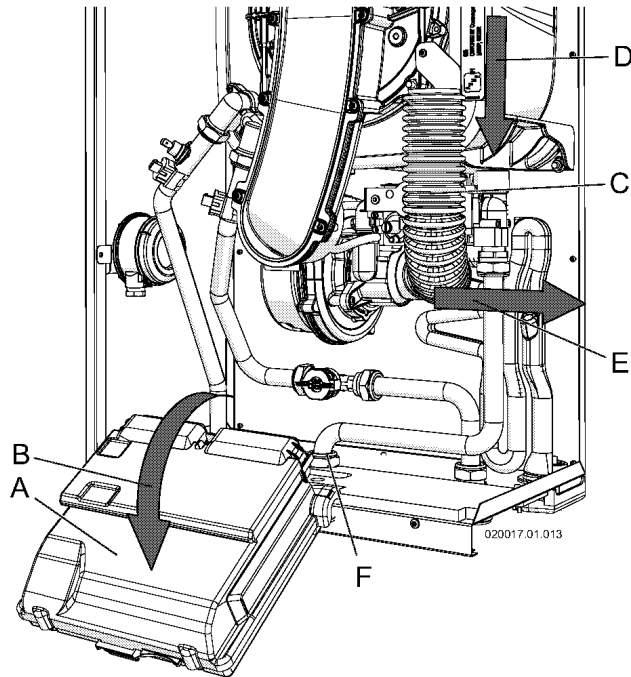

Figure 11-3 Remove the air inlet drum
- 4 - open the electrical box "A" in the "B" direction (see Figure 11-3)
- 5 - Push down, then rotate in the front direction and then pull in the right direction, the air inlet drum (See figure 11-3 item "C")